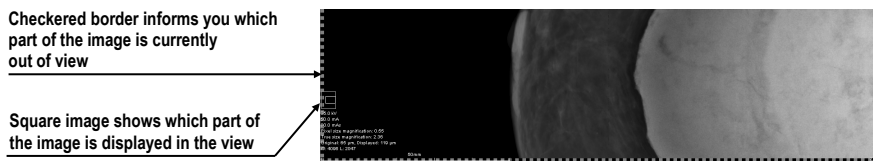

Figure 77 – Active checkered border
- The **Show checkered border when the entire image is not displayed** check box. If it is checked and the image in the mammography view is scaled in such a way that parts of the image is out of the view, the image is partially bordered with a checkered line to indicate which part of the image is displayed outside of the view (see Figure 77).